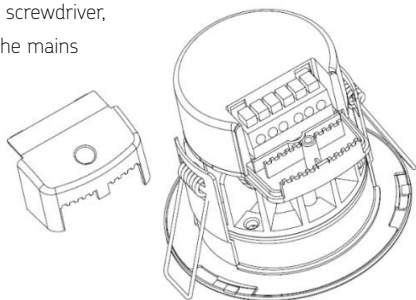

Fig. 2
- With the aid of a cross-head screwdriver, remove the cover to access the mains terminal block (see Fig. 2)